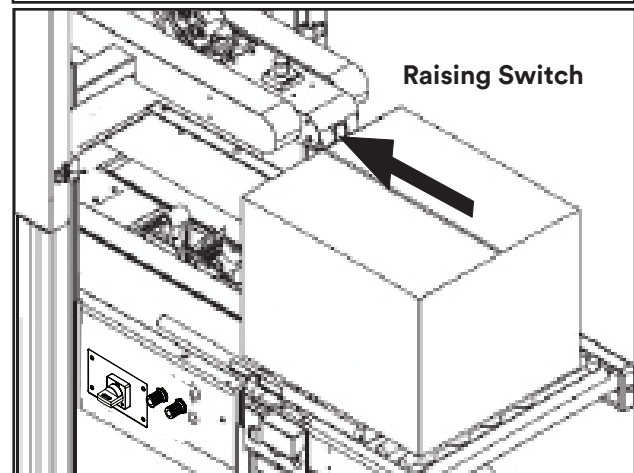

Figure 7-20 Drive Assembly Raising Switch
2. Once the box is centered by the guides, the operator pushes the box against the Raising Actuator/ Proximity Sensor on the upper drive assembly, as shown in Figure 7-20, causing the upper taping head to be raised by two air cylinders. The upper taping head will continue to rise above the box height so the operator can insert the box underneath the upper drive belts.